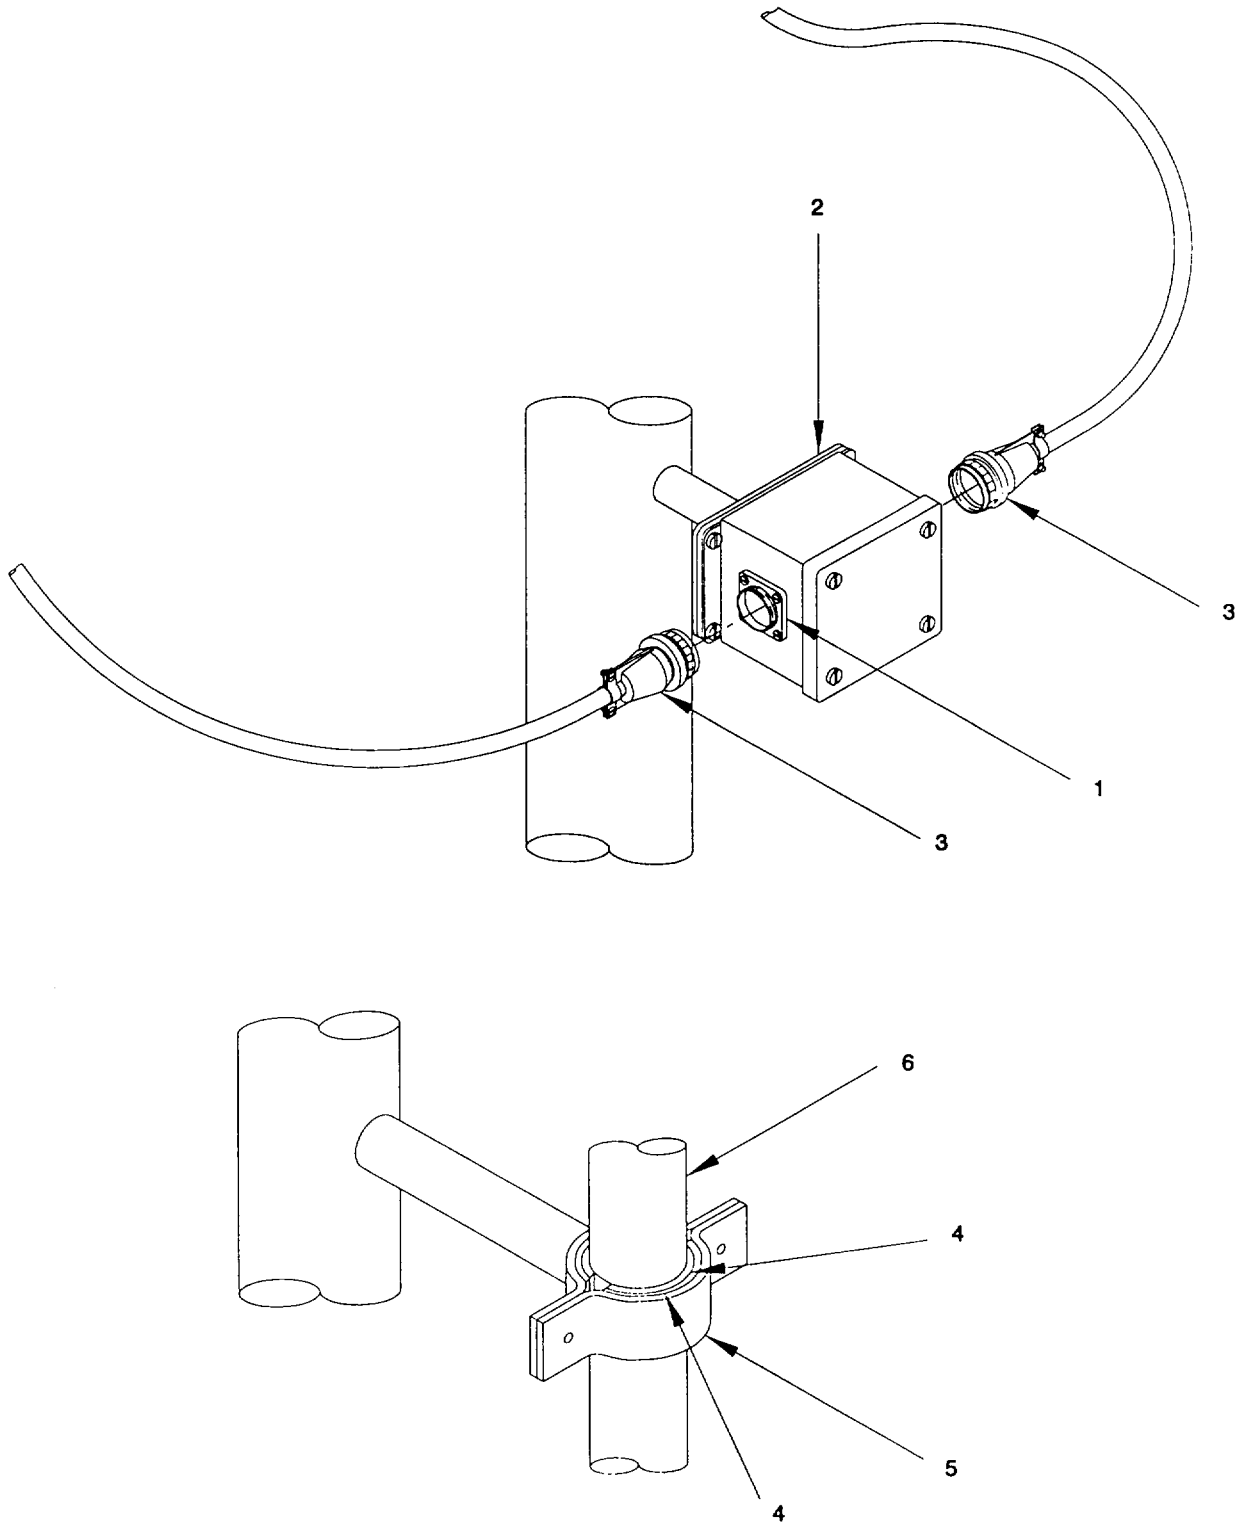

Figure 2-178. Navigation Mast Repair.
- (b) Remove blank cover (2) with cover gasket (3), and conduit body (4) from the mast. Remove the short round pipe (5) and hub (6) from the top of the navigation terminal box (1).
- (c) Remove nuts (7), lockwashers (8), and capscrews (9) to bring navigation light terminal box (1) off mast, if necessary.
- (d) Remove connectors (10) and backshells (11) from terminal box (1).
b. Repair. (figure 2-178)
- (1) Inspect cables, cable connections, and conduits for deterioration, corrosion, splitting. Reference Appendix G, Replace as necessary.
- (2) Inspect connector receptacles (1) on junction boxes (2) for corrosion or dirty plugs. Clean off corrosion and clean out plugs.
- (3) Inspect pigtail connector plugs (3) from lights and cables for corrosion, connection separation, insulation cracking, bent pins and dirty plugs. Clean off corrosion and straighten pins.
- (4) On the bottom mast, replace the neoprene strips (4) on the two clamps (5) that secure and store the stub mast (6) assembly with the navigation mast.
- (5) If damaged, replace pipes by loosening hubs and removing clamps. If wires are not damaged, they can be routed through the new piping.